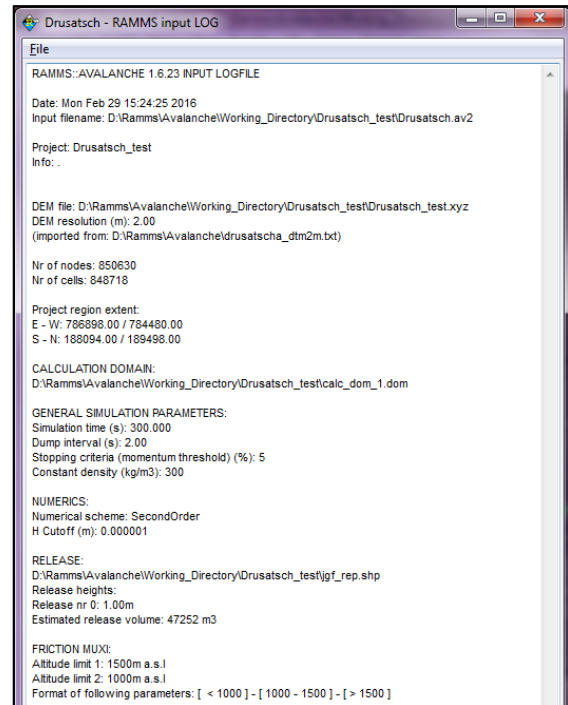

Figure 4-4: RAMMS Project Input Log file.
- (1) Information on simulation time and resolution. Be sure the simulation stopped due to **LOW FLUX** or **CENTER of MASS**. Otherwise the output **TIME END CONDITION** informs you, that your simulation stopped before the avalanche reached the stopping criterion you defined for the simulation (see section 4.2.6 on page 70).
- (2) Information on simulation results.
- (3) Input logfile (see Figure 4-4).